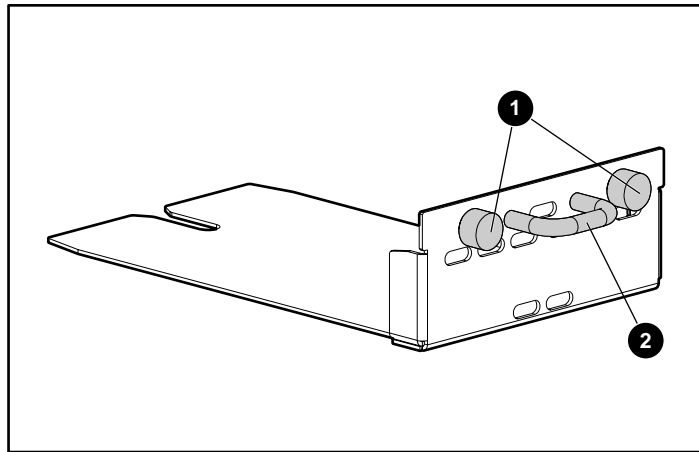

Figure 117: Thumbscrews and handle on an I/O module or blank module
2. Loosen the thumbscrews ❶ on the I/O module or blank module shown in Figure 117 in a counterclockwise rotation.
3. Holding the handle ❷ shown in Figure 117, pull out the I/O module or blank module until it has completely cleared the I/O bay.